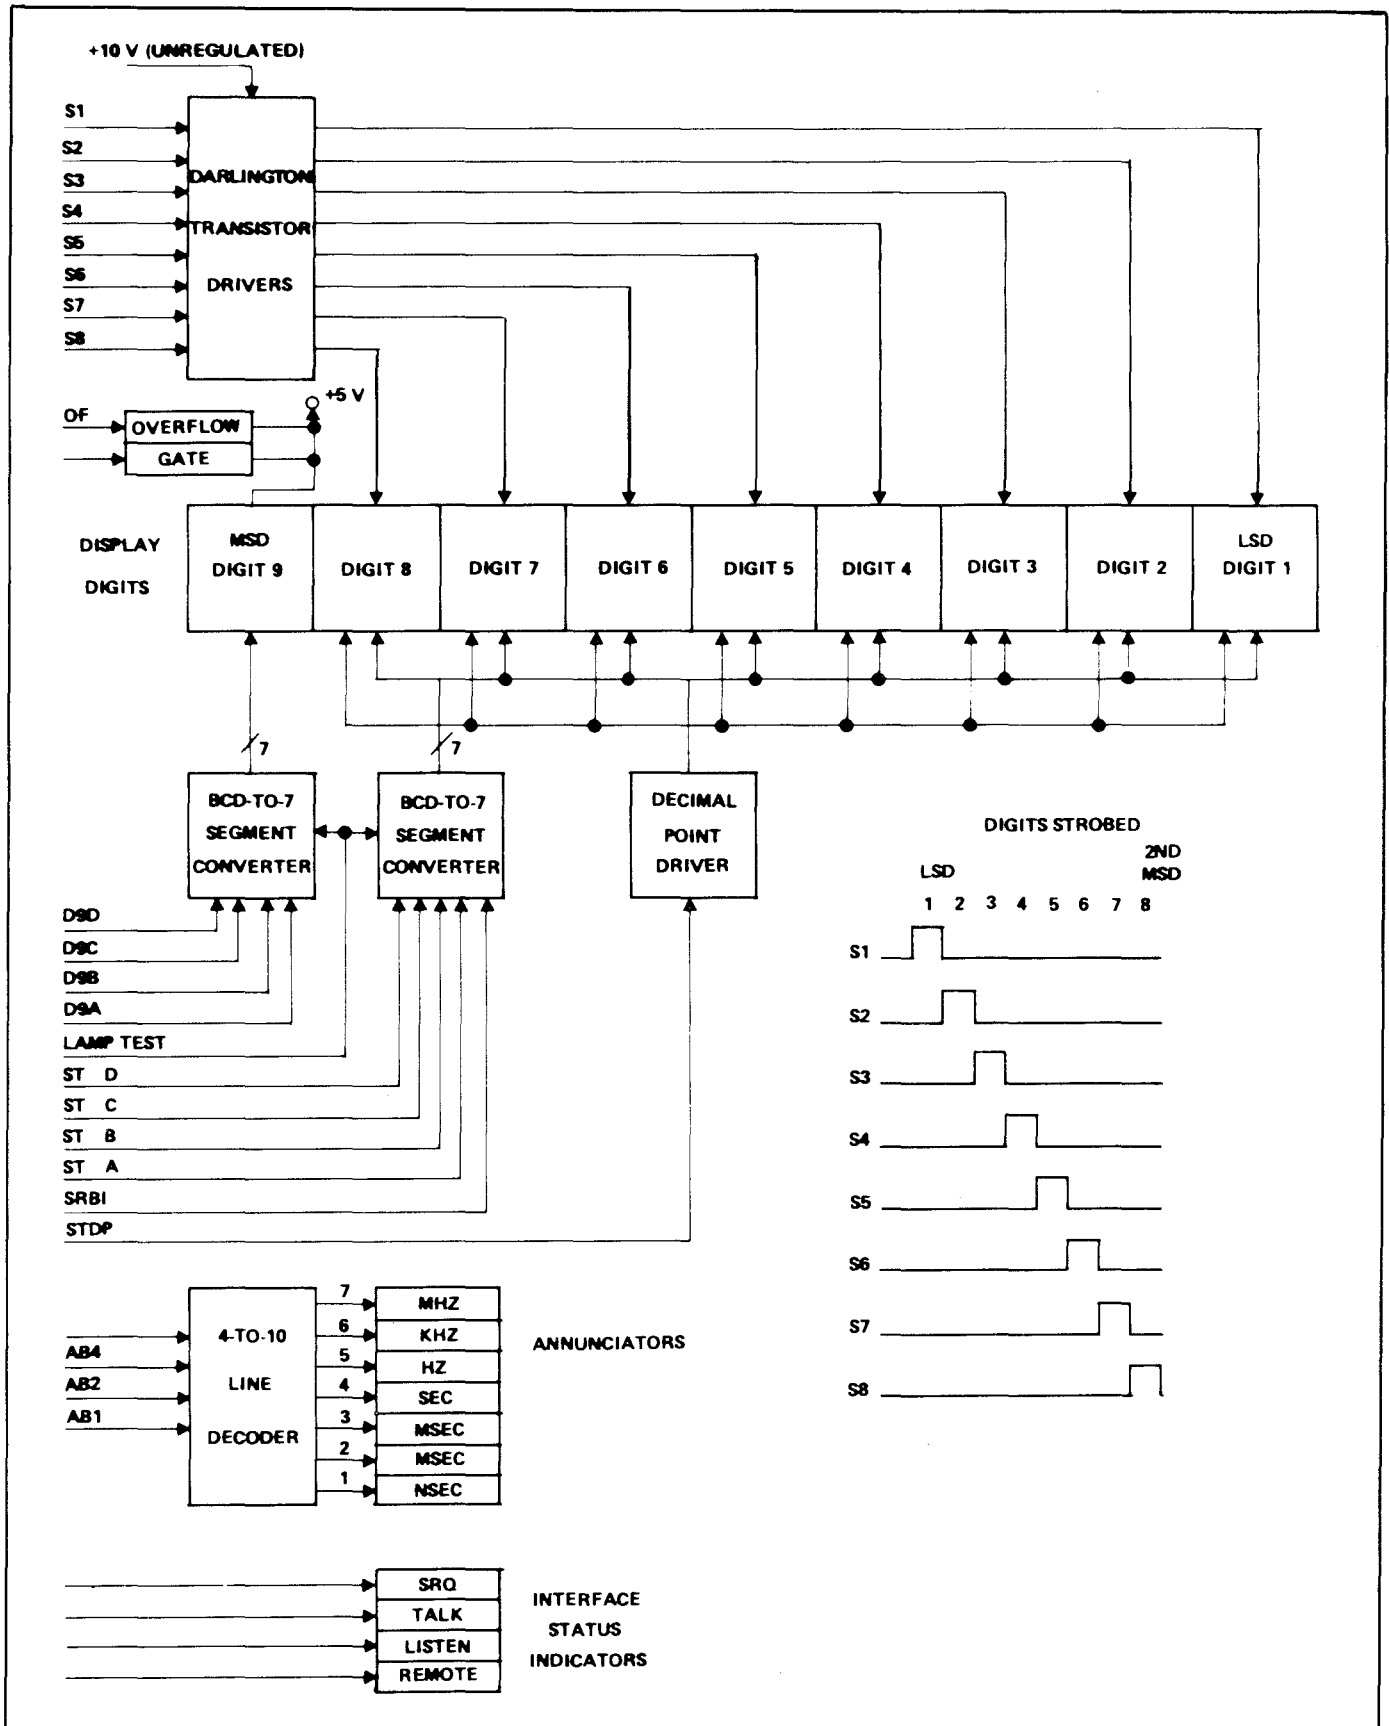

Figure 1.18 - Display Logic
1.4.8.1 The display board contains the LED indicators and logic necessary to display nine digits of measurement data, a decimal point, unit annunciators, and GPIB interface status. To minimize the number of output lines between the accumulator and the display, the eight least significant digits are multiplexed. The display logic is shown in figure 1.18.